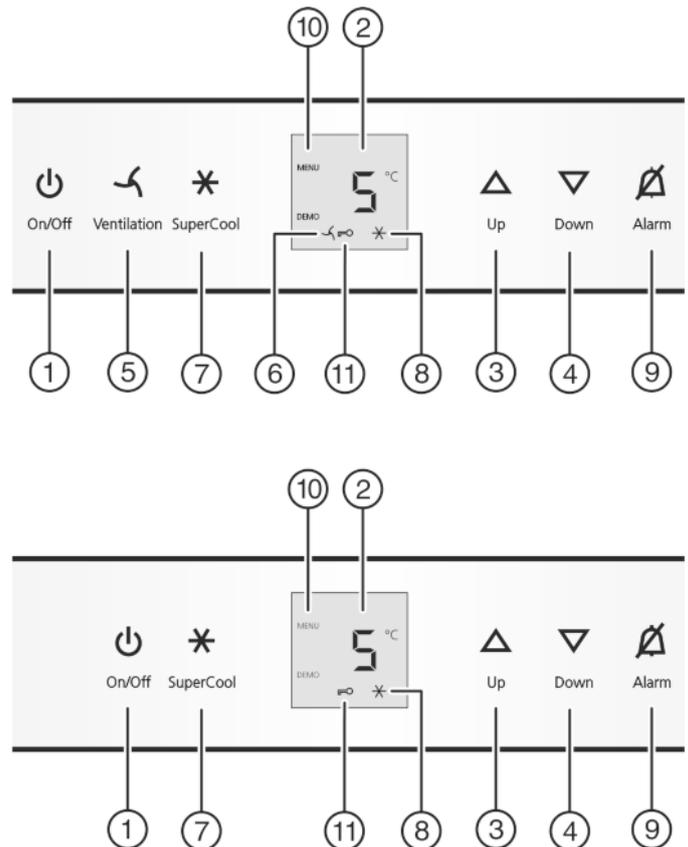

Fig. 2
- ▶ Press On/Off button *Fig. 2 (1)*.
- ▶ Activate setting mode: Press the SuperCool button *Fig. 2 (7)* for around 5 seconds.
- ▶ Briefly press the SuperCool button *Fig. 2 (7)* to confirm. When **cl** is indicated in the display:
- ▶ to activate the child lock, briefly press the SuperCool button *Fig. 2 (7)*.
- ▷ The child lock symbol *Fig. 2 (11)* shines. **cl** flashes in the display.
- ▶ to deactivate the child lock, briefly press the SuperCool button *Fig. 2 (7)*.
- ▷ The child lock symbol *Fig. 2 (11)* goes out. **cl** flashes in the display.
- ▶ To deactivate the set-up mode: press On/Off button *Fig. 2 (1)*.
- ▶ Press alarm button *Fig. 2 (9)*.
- ▶ For a higher temperature setting: press Up button *Fig. 2 (3)*.
- ▶ For a lower temperature setting: press Down button *Fig. 2 (4)*.
- ▶ Briefly press SuperCool button *Fig. 2 (7)*.
- ▷ The SuperCool *Fig. 2 (8)* symbol lights up in the display.
- ▷ The SuperCool symbol *Fig. 2 (8)* goes out in the display.